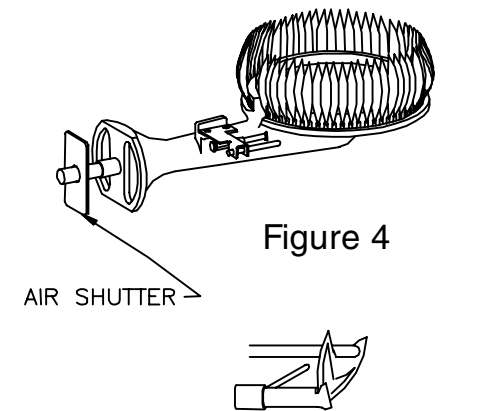

Figure 4
**Cast Iron Burner:** At the time of installation and at periodic intervals (not more than 6 months), a visual check of the main burner and pilot flames should be made to determine if they are burning properly. For ideal operation, the gas and air must be properly proportioned. The proper air-gas mixture is obtained by adjusting the air shutter on the mixer face of the main burner (See Figure 4). To adjust for proper burning, loosen the air shutter nut, rotate shutter to close the opening in the burner then slowly rotate the shutter until the yellow tips disappear and the flame becomes blue. Tighten the air shutter nut. Too much air will cause the flame to lift off the burner ports and create noisy operation. Too little air will result in soot formation. The main burner flame should light smoothly from the pilot.